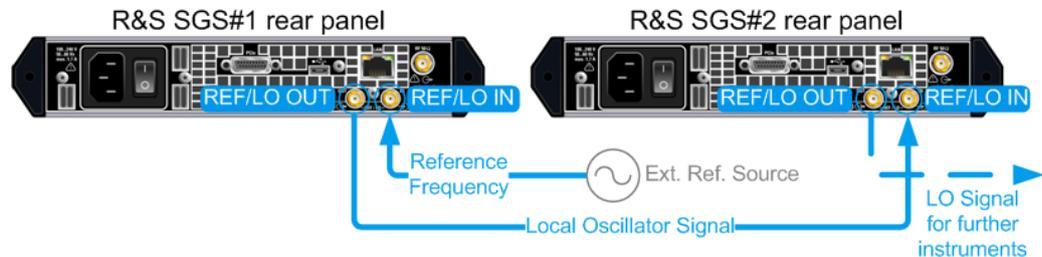

Figure 11-3: Example of a setup: LO coupling
1. Connect the instruments as a daisy chain (see Figure 11-3), i.e. connect the "REF IN" connector of each further instrument to the "REF OUT" connector of the previous one.
Refer to Figure 11-3 for an example of how to connect two instruments for achieving phase coherence. The configuration can be extended by further instruments.